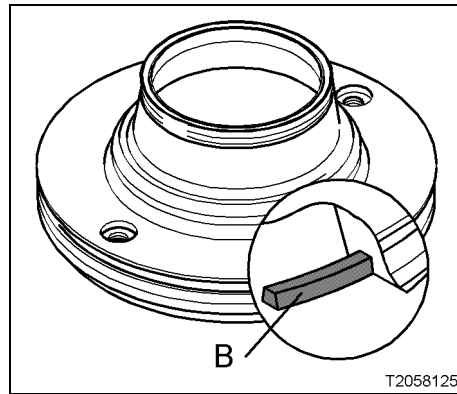

Fig. 185
- the polyamide gasket B of the bowl top (Fig. 185).